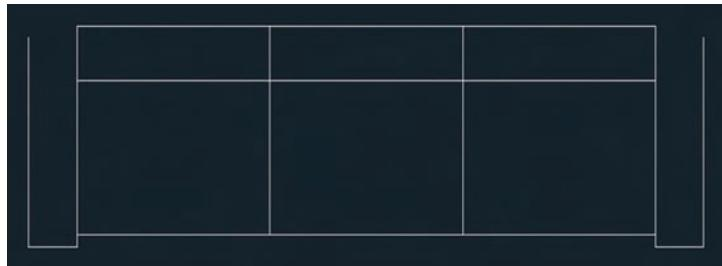

FIGURE 9.4 Filleting lines to meet at sharp corners
9. Press the spacebar to repeat the **FILLET** command. Click the inner line on the left arm of the sofa and then click the back line. Figure 9.4 shows the result.